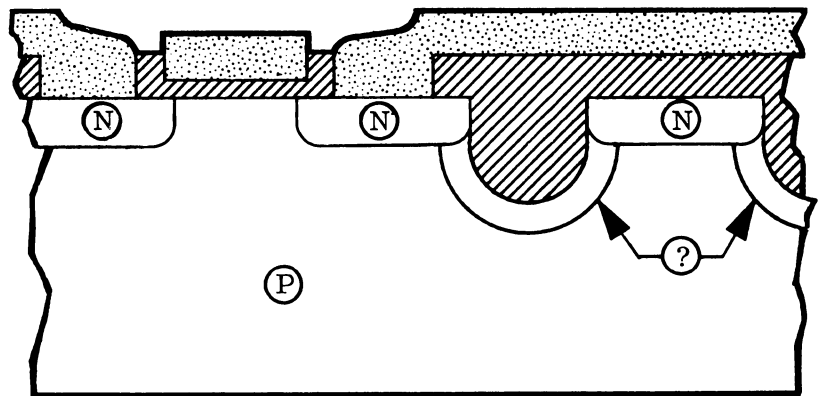

FIGURE 5
13. The indicated areas in figure 5 are _____ .
14. The purpose of the areas indicated in figure 5 is to_____.